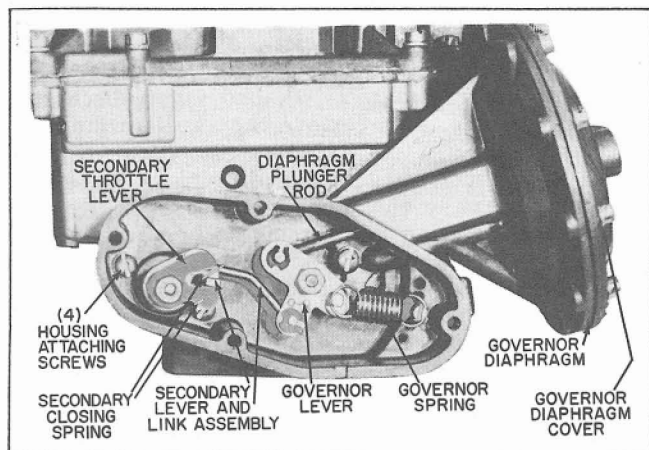

FIGURE 20
### Disassembly of 4G Governor (Fig. 20)
1. Install new gasket on governor housing, then install governor housing on throttle body using (4) attaching screws and lockwashers. Tighten securely.
2. Install governor lever, link and secondary valve actuating lever as shown (Fig. 20). Make sure "D" hole in primary lever is seated on flat of primary throttle shaft.
3. Install secondary throttle closing spring and secondary throttle lever on throttle shaft. Make sure flats on lever are seated on shaft. Install (2) lockwashers and  $11/32$ " nuts on ends of throttle shafts to retain levers. Tighten securely.
8. Install governor housing side plate using (4) attaching screws and lockwashers. Tighten screws securely.
9. Install throttle lever and bearing assembly using new gasket. Install (4) attaching screws and lockwashers. Tighten securely.